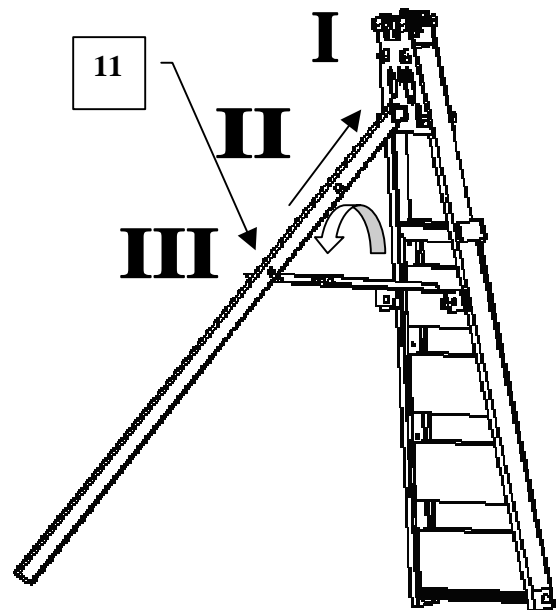

Fig. 3
2. Release the brace (5) from hole (II), move it to the last hole (I) and then screw it on again (see Fig. 3).
3. Snap the table catch (6) by brace (5) into hole (III) and secure it with screw (11) (see Fig. 3).